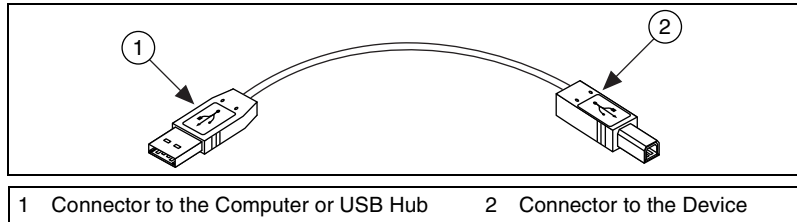

Figure 5. USB Cable and Connectors
2. Connect the cable from the computer USB or IEEE 1394 port or from any other hub or IEEE 1394 device to any available USB or IEEE 1394 port on the device. Figure 5 shows the USB cable and its connectors.